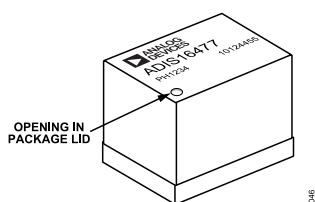

Figure 50. Pressure Relief Hole
- ▶ The hole in the top of the lid (see Figure 50) provides venting and pressure relief during the assembly process of the ADIS16477. Keep this hole clear of obstruction while attaching the ADIS16477 to a PCB.